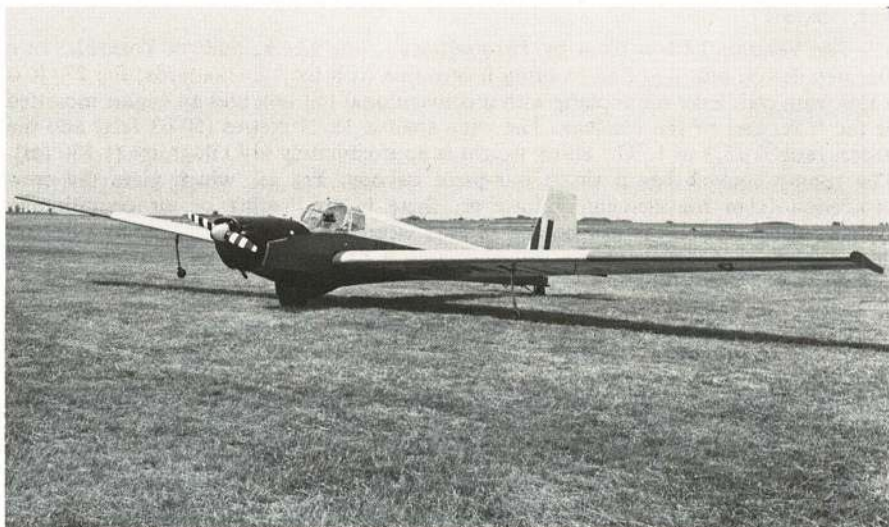
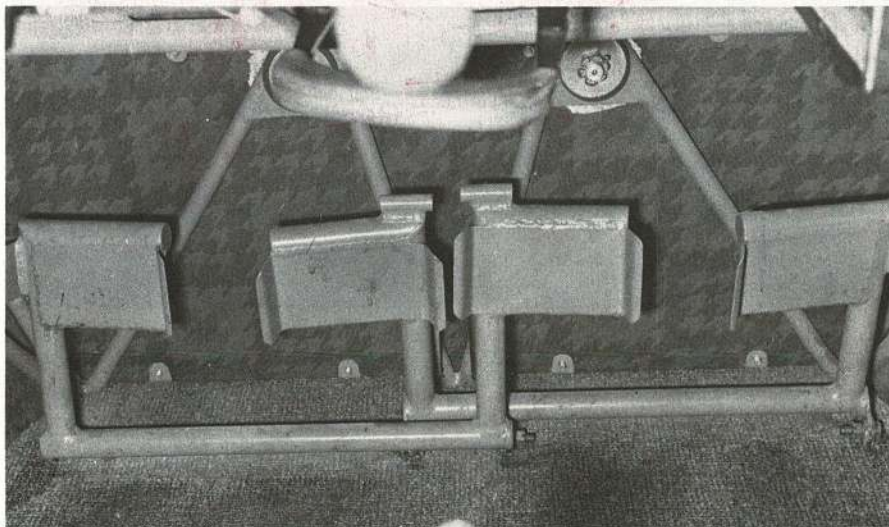

Fig 27 Venture T2
Fig 28 Single one-piece canopy, hinged at the front
5. The Venture T2 is a Slingsby T61e self-launching glider, built in Yorkshire to a German design but modified to bring it into line with British standards, Fig 27. It is a low wing cantilever monoplane with a conventional tail unit and an engine mounted at the front end of the fuselage. The wing span is 15.25 metres (50.03 feet) and the aspect ratio is 13.3 to 1. The all-up weight is approximately 614 kilograms (1,350 lbs). The roomy cockpit has a single one-piece canopy, Fig 28, which gives the crew protection from the elements. However, there is no heating or air conditioning system; warm clothing is still needed in cold weather! The crew sit side by side and both student and instructor are provided with a full set of flying controls, Figs 29 and 30.
8. The aircraft has a single main wheel Fig 36, which is fitted with a manually operated brake—you can see the brake operating lever on the left hand control column in Fig 28. There is no form of shock absorber or oleo-leg. The wings are kept near level, while taxiing, by 2 outrigger wheels (one under each wing) Fig 37. When the mainplanes are truly level both outrigger wheels are off the ground—thus, when taxiing, one mainplane will often be lower than the other, but will be supported by its outrigger, Fig 38. Steering is achieved by a tailwheel steered by the rudder pedals.